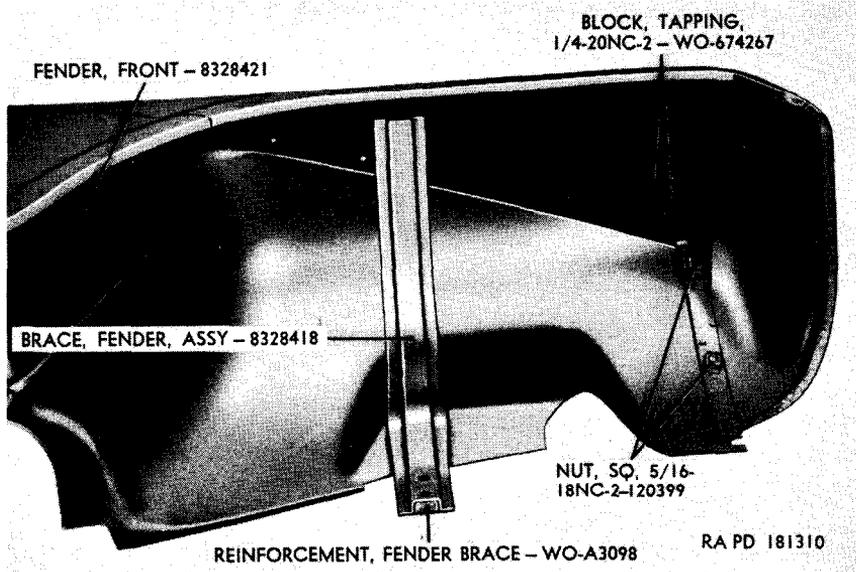
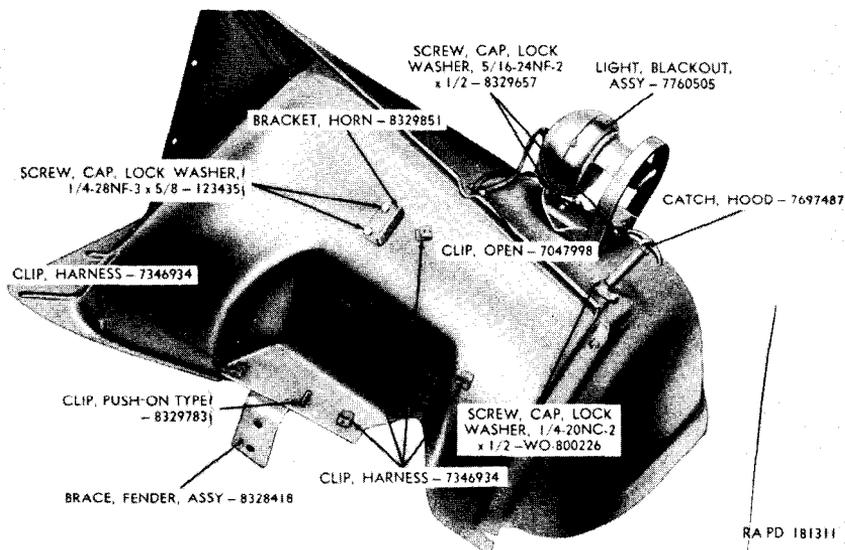

Figure 174. Underside of right front fender.
Figure 175. Outside of left front fender and related parts.
b. *Fenders* (figs. 174 and 175). Both front fenders are similar in design and construction. They are secured to the body, radiator guard assembly, and frame in an identical manner. The left front fender, however, mounts the blackout driving light and guard, horn, and clips for securing the vehicle wiring harness and fuel line.
- a. Right Front Fender.* The right front fender (fig. 174) requires no disassembly except for removal of the hood catch. Do not remove hood catch unless inspection (par. 234a) reveals it to be unserviceable. To remove hood catch (fig. 175), remove two lockwasher cap screws.
- b. Left Front Fender* (fig. 175 and 176). Do not remove the horn
(figs. 174, 175, and 176)
a. Right Front Fender. Secure hood catch (fig. 175) with two $\frac{1}{4}$ -20NC-2 x $\frac{1}{2}$ lockwasher cap screws.
b. Left Front Fender (figs. 175 and 176).
- (1) *Install horn bracket.* Secure horn bracket to left front fender with two $\frac{1}{4}$ -28NF-3 x $\frac{5}{8}$ lockwasher cap screws.
- (2) *Install blackout light assembly.* Position blackout light assembly on top of left front fender and secure with two $\frac{5}{16}$ -24NF-2 x $\frac{1}{2}$ lockwasher cap screws and one $\frac{5}{16}$ -24NF-2 x $\frac{3}{4}$ lockwasher cap screw. Secure open clip to top of left front fender with a No. $\frac{1}{4}$ -24NC-2 x $\frac{1}{2}$ cap screw.
- (3) *Install hood catch.* Refer to *a* above.
- (4) *Install wiring harness and push-on type clips.* Install the six wiring harness clips and one push-on type clip by inserting them in their retaining holes in the left front fender.